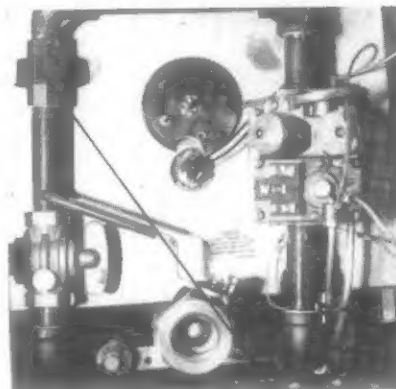

Fig. 9
- 3) Loosen the pipe union to the left of the valve. See Figure 9.